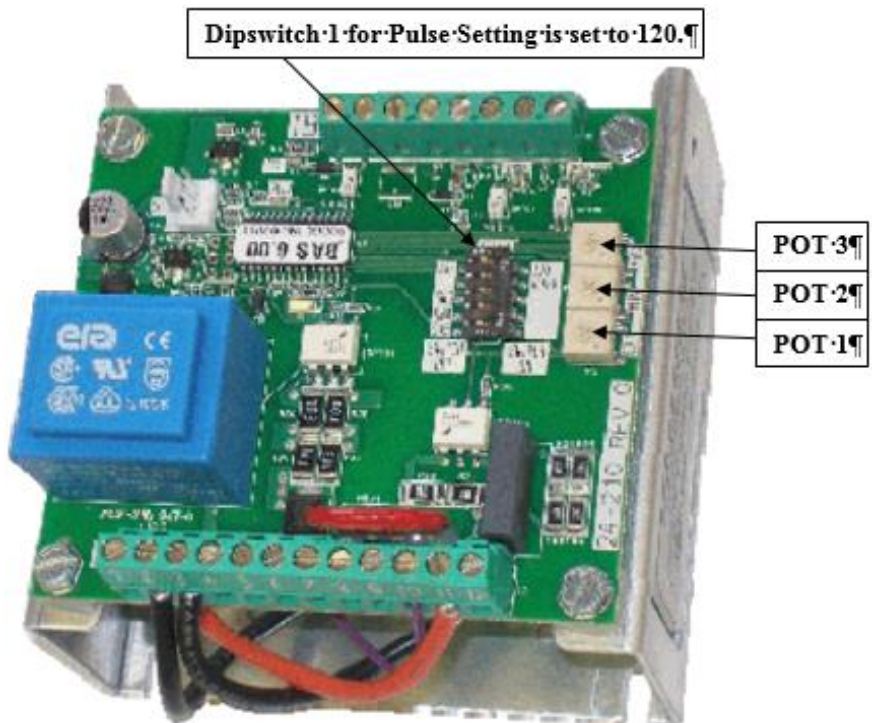

Figure 4-9
3), then MINIMUM OUTPUT (POT 2), and finally, SOFT-START (POT 1). Each POT is labeled on the driver board, see Figure 4-9.